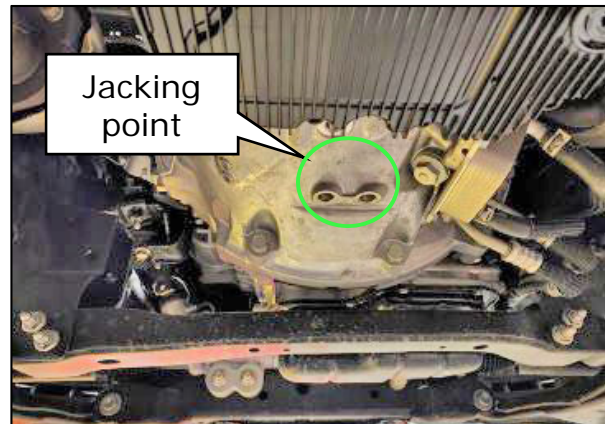

Figure 3
- Using a suitable jack and a block of wood, raise the Transmission Assembly approximately 10 mm (1/2") at the jacking point shown in Figure 3.